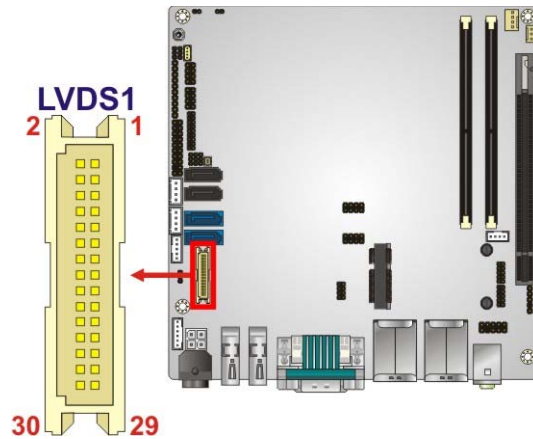

Figure 3-11: LVDS Connector Location
- CN Location:** See **Figure 3-11**